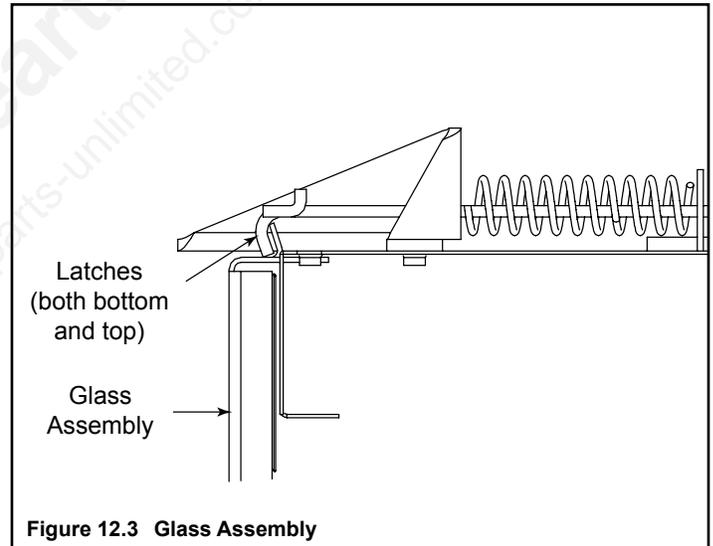

Figure 12.3 Glass Assembly
- Pull the four glass assembly latches out of the groove on the glass frame. See Figure 12.3